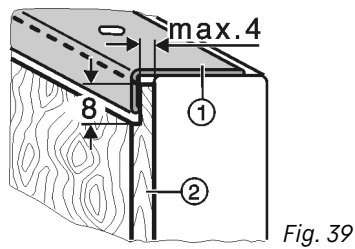

Fig. 39
- Lay thicker décor panels Fig. 39 (2) as shown to a max. thickness of 4 mm.